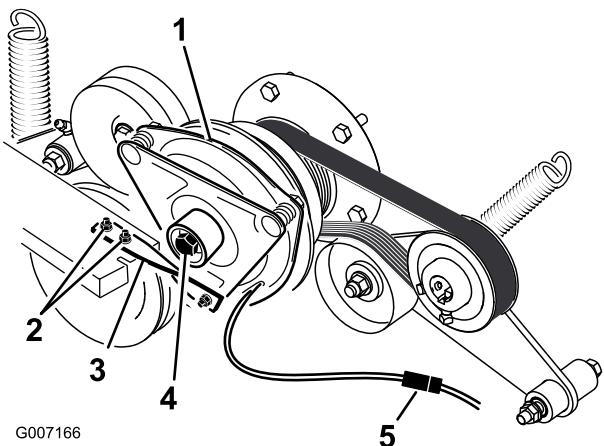

Figure 58
- Unplug the electric connection for the clutch (Figure 58).
- Remove the two bolts holding the rubber clutch strap to the mower frame (Figure 58).
- Remove the center bolt holding the clutch to the engine shaft and remove the clutch and key (Figure 58).
- While holding the crank shaft at the back of the machine, install the center bolt and torque it to 50 ft-lbs (68 N-m) (Figure 58).
- Install the rubber clutch strap to the mower frame with the two previously removed bolts and nuts (Figure 58).
- Plug in the electric connection for the clutch (Figure 58).